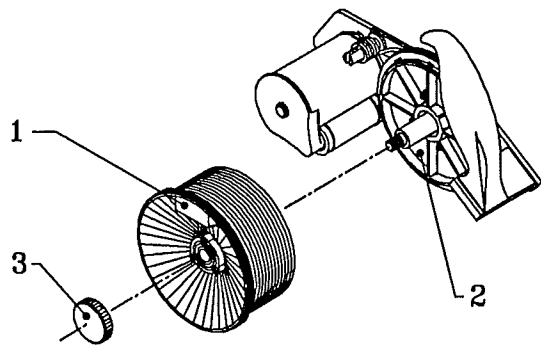

Figure 33 : Exchanging textrolls
7.3.3 Exchanging textrolls (see figure 33)